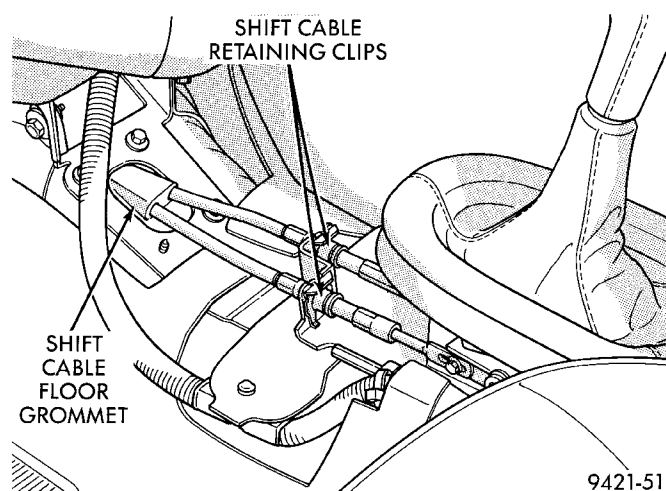

Fig. 13 Cable Retaining Clips
(9) Remove cable retaining clips at shifter (Fig. 13).